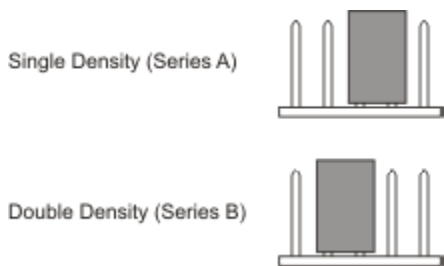

FIG. 3-2 SINGLE DENSITY & DOUBLE DENSITY JUMPER SETTINGS
Step 6. Set the J1 Jumper for either Single Density (Series A) or Double Density (Series B). (See Fig. 3-2)